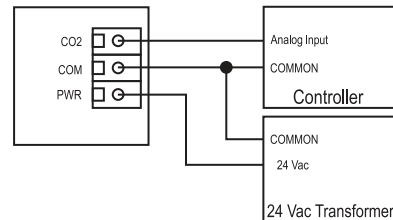

Figure 8
• The relay output is on the N.O. RELAY terminals as shown in Figure 8. The relay output is completely isolated and has a Normally Open (NO) signal. This signal can be used to directly control an alarm or ventilation fan. See page 6 for switch rating.